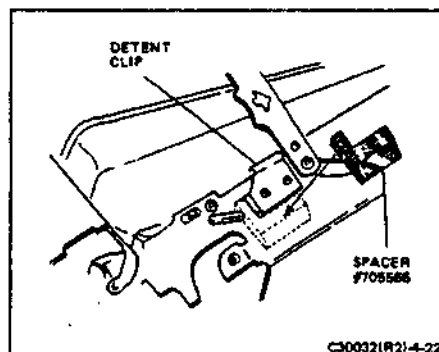

FIGURE 4-22 INSTALLING ERECTING LINK SPACER
- b. With the camera fully erected, slip special spacer #705566 under the edge of the detent clip as shown in Figure 4-22. The spacer will snap into place under the edge of the clip and will provide the needed clearance between the lower camera back assembly and the bottom cover.
NOTE: Early cameras do not have the detent clip shown in Figure 4-22 so the spacer cannot be installed. However, these cameras should not exhibit this clearance problem anyway. Also, new camera models have a modified detent clip which eliminates the clearance problem.